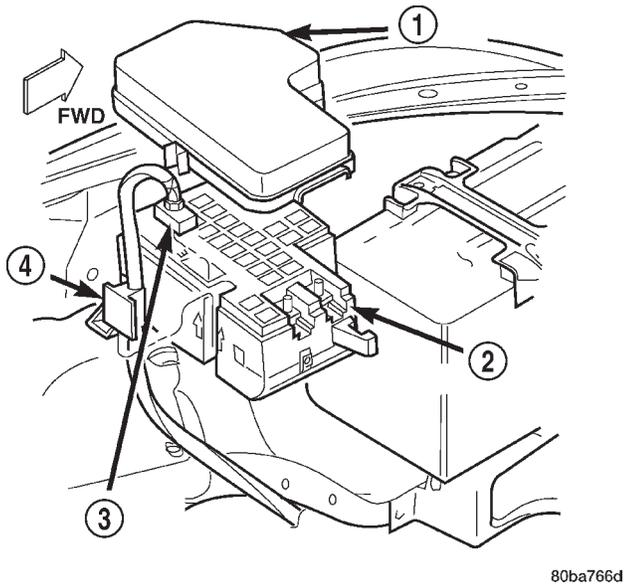

Fig. 5 Engine Wire Harness In-Line Connector
(6) Disconnect the engine wire harness in-line connector from the PDC connector receptacle (Fig. 5).